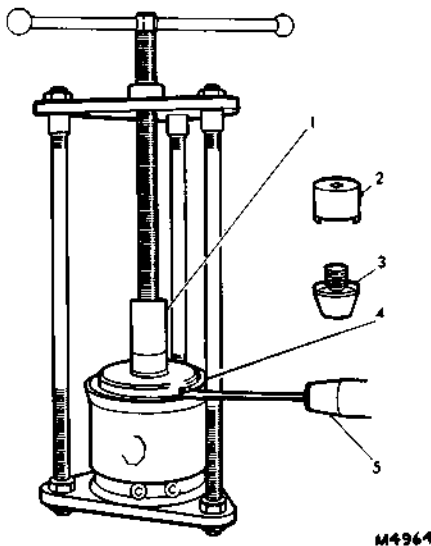

FIG. 2. TYPICAL SPRING BRAKE ACTUATOR HELD IN BASIC TOOL MS 61 SHOWING CIRCLIP REMOVAL
**DANGER:** It is essential that the powerful coiled spring is carefully released from tension with service tool MS 61 and adaptor set WH 61-5, see Fig. 2.
6. Using the two pinned socket (2) of the adaptor set, unscrew the anti-explosion washer from inside the actuator head. This may be tight for the first thread as it could be holding the piston just clear of the bottom of the cylinder.
7. Place the actuator in the basic tool and centralize. Locate the thrust pad (1) of the tool set, well-lubricated in its bore, on the end of the central screw and wind down until the pad locates in the actuator head. Remove the sealing compound from around the circlip. Depress the head into the cylinder approximately 0.8 mm ( $\frac{1}{32}$  inch) to relieve the load from the circlip.